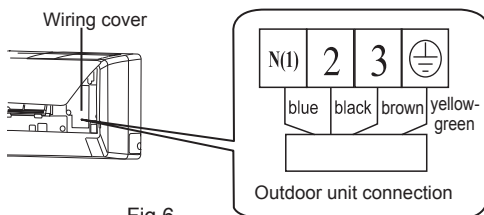

Fig.6
2. Remove the wiring cover and connect and fix power connection cord to the terminal board as shown in Fig 6.